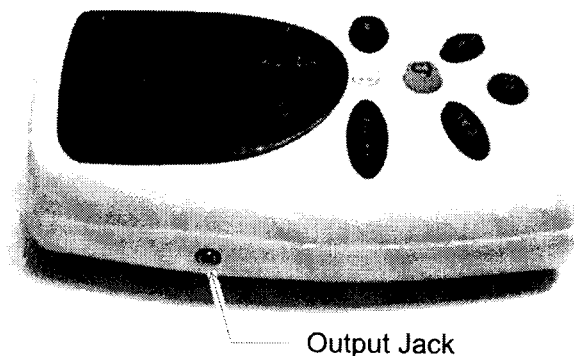

Figure 2-9: 0-1 VDC or RS 232 Digital Output Port
1. Insert one end of the interface cable into the output port on the side of the instrument. See Figure 2-9.